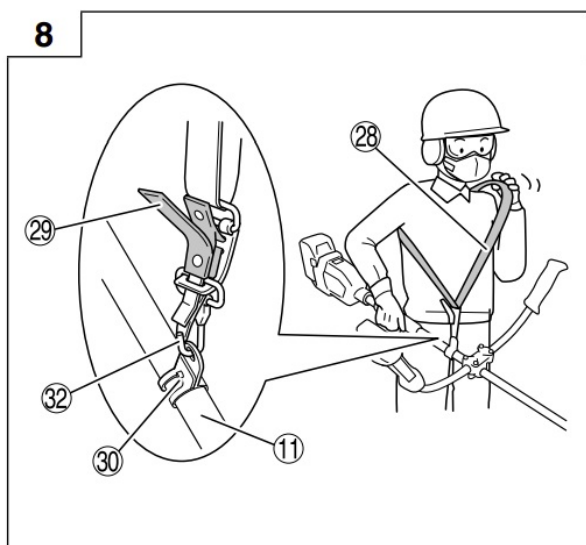

Fig. 8
1. Place the shoulder belt on the shoulder as shown in **Fig. 8** and engage it with the hanger on the tool. Adjust the shoulder belt to suitable length.